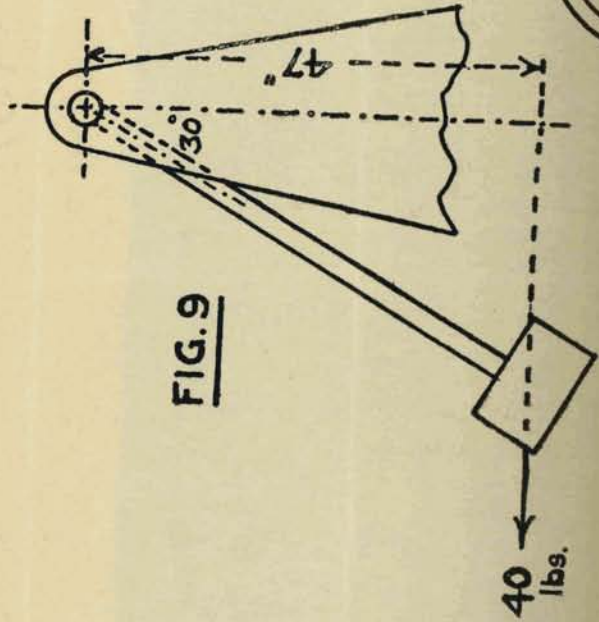

FIG. 9
9. To find the energy stored in the hammer of an Izod Machine (Fig. 9) the hammer was pulled aside by a horizontal pull of 40 lb. The line of action of this pull was 47" from the axis of suspension of the hammer. The deflection angle of the hammer for this pull was 30°.